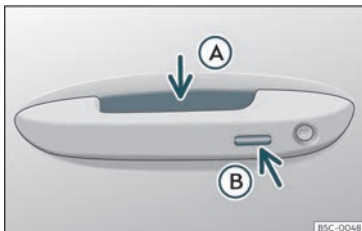

Fig. 81 Door handle: sensor surfaces
>>> Fig. 81
»» **Fig. 81 A** (arrow) of the handle and the vehicle unlocks.
»» **Fig. 81 B** (arrow) on one of the front door handles. The door that is used must be closed.
- Touch (*once*) the sensor surface»» **Fig. 81 B** (arrow) on one of the front door handles. The vehicle locks with the “Safe” security system»» page 101. The door that is used must be closed.
- Touch (*twice*) the sensor surface»» **Fig. 81 B** (arrow) of one of the front door handles to lock the vehicle without activating the “Safelock” security system»» page 101.
- Push the central locking button  on the remote control and touch the locking sensor surface of the driver door handle >>> **Fig. 81**  within the following 5 seconds. Do not grasp the door handle; otherwise the vehicle will not unlock. Deactivation is also possible if the vehicle is locked through the driver's door lock.
To close all the electric windows and the sunroof using the **comfort function**, keep a finger for a few seconds on the locking sensor surface >>> **Fig. 81**  (arrow) of the door handle until the windows and roof have closed.
The sensor surfaces on the door handles could engage if hit with a water jet or high pressure steam if there is a valid vehicle key in the proximity. If at least one of the electric windows is open and the sensor surface >>> **Fig. 81**  (arrow) on one of the handles is activated continuously, all windows will close.
- **OR:** touch the sensor surface on the outside of the door handle twice >>> Fig. 81